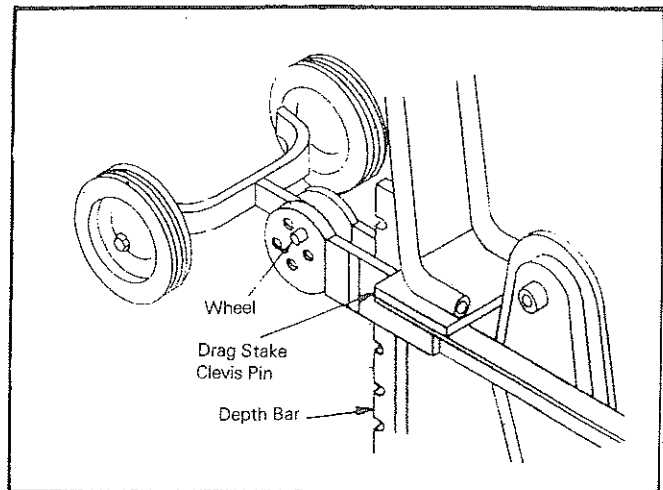

Figure 9
1. When the ground is hard (especially during spring and fall plowing), place wheels in up position by removing the pin clip from the wheel clevis pin, removing the clevis pin and repositioning wheel frame bar. Replace the clevis pin and the pin clip (See Fig. 9). For weeding or cultivating, wheels may be left down if you prefer.
WHEEL HEIGHT (See Fig. 9 & 10)